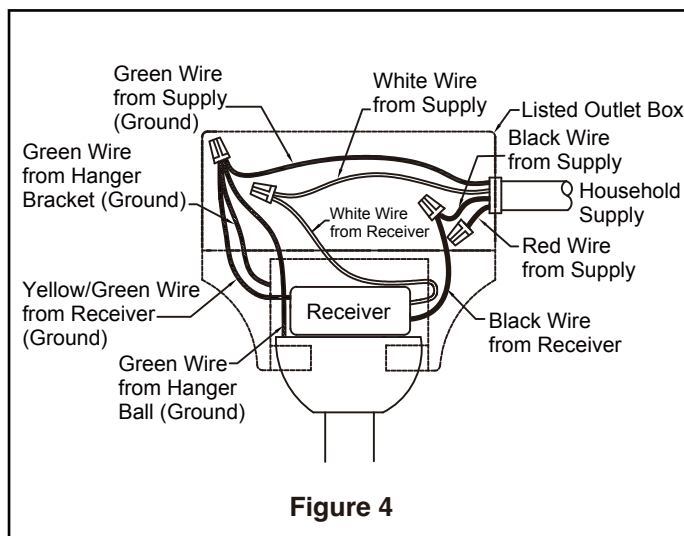

Figure 4
- ☐ 3. After connections have been made, put the white and green leads to one side and the black leads towards the other side, the connection should be turned upward and carefully push leads into the outlet box. The wires should be spread apart with the grounded conductor and the equipment-grounding conductor on one side of the outlet box and the ungrounded conductor on the other side. (Figure 4)